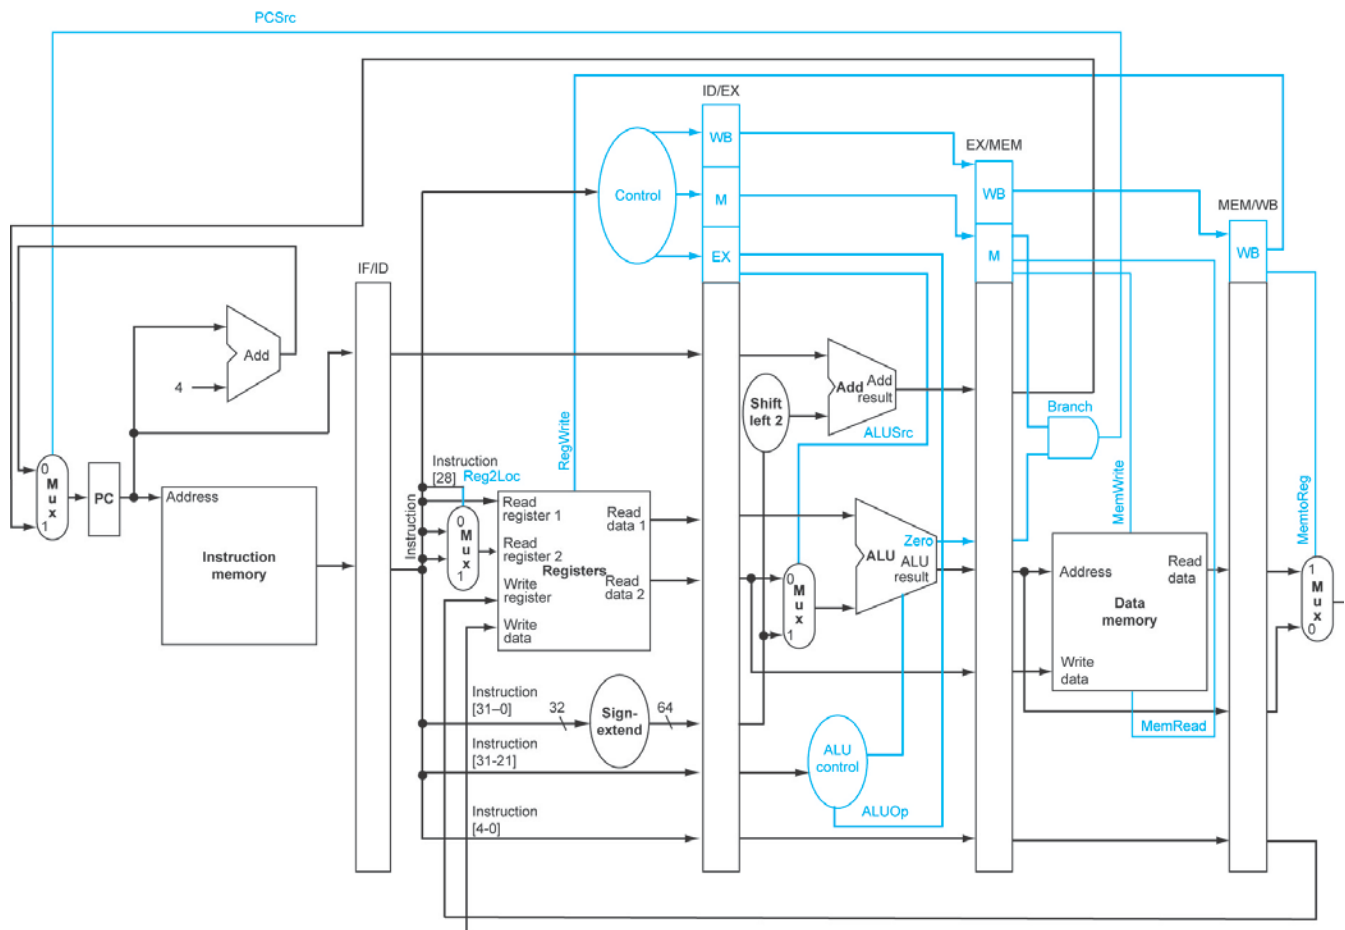

Figure 1. Five-stage Pipeline LEGv8 (from textbook).
LEGLite-Pipe is pipelined version of LEGLite-Single, as described in Homework 6. It has five pipeline stages just as the pipelined LEGv8 in Chapter 4 in the textbook as shown in Figure 1. This project is to design this computer using verilog and to implement it in an FPGA. You can use parts from LEGLite-Single (homework 6) including Parts.V, IM1.V, and IM2.V.
- Draw a block diagram of your computer. It should be similar to Figure 1 but for LEGLite-Pipe0.